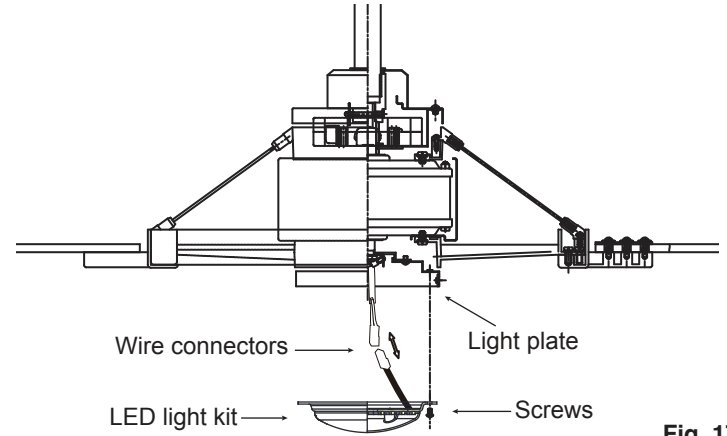

Fig. 17
Step 1. Loosen the three mounting screws on the inside of the LED light kit. (Fig. 17)
Step 2. While holding the LED light kit under the fan motor, make the wire connections: (Fig. 17)
Step 3. Tuck the connections neatly into the light plate. Place the key holes on the LED light kit over the 2 screws previously loosened from the light plate, turn the LED light kit until it locks in place at the narrow section of the key holes. Secure by tightening all three screws. (Fig. 17)